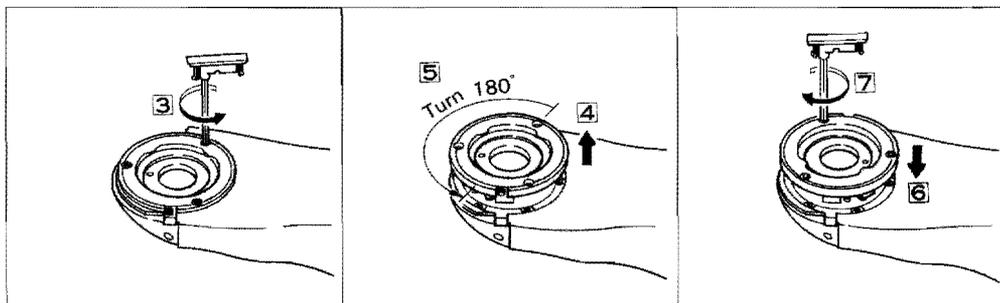

Fig. 2-9
- Loosen the three bolts with hexagon holes on the circular dovetail for mounting the eyepiece tube (integrated with the circular dovetail for mounting the revolving nosepiece) by using the hexagon wrench ③. Remove the circular dovetail ④. Mount and turn it 180°, ⑤ and ⑥, then fasten it with the three bolts with hexagon holes firmly and equally ⑦ (Fig. 2-9).